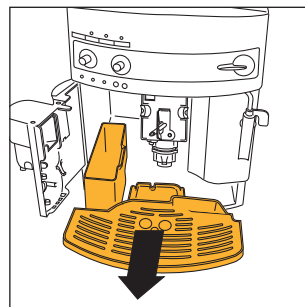

Fig. 16
NOTE 7: the machine counts the number of cups of coffee made. Each 14 single cups (or 7 double cups), the 📊 light switches on steady (chap. 12 point 3), warning the user that the grounds container is full and must be emptied and cleaned. Until the grounds container has been cleaned, the light will remain on and the machine cannot deliver coffee. To clean the container, open the service door on the front (pulling the handle, Fig. 15), the ⚠ light flashes (see para 12 point 9); remove the drip tray (Fig. 16), empty and clean. Empty and carefully clean the grounds container, making sure to remove all the residues that may be deposited on the bottom. Also dry the any drops of condensate that may have formed inside the machine under the drip tray. **IMPORTANT: when removing the drip tray, the grounds container MUST be emptied, even if it is not completely full. If this is not done, when next making coffee the grounds container may fill over the maximum level and block the machine with lumps of coffee grounds.**
- remove the drip tray and the grounds container (Fig. 16) and clean them;